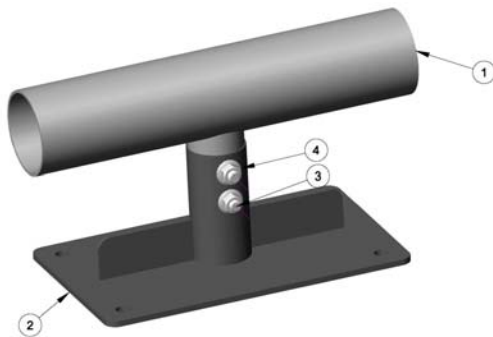

Figure 1. Hoist carrier mount installation.
1. Using detail from production drawings, hang welded drop pipe (item 1) from trusses. Make sure drop pipe is plum.
2. Begin installing carrier mount brackets (item 2) on the welded drop pipe (item 1) using the provided $\frac{1}{2}$ "-13 x 3" hex head bolts (item 3) and $\frac{1}{2}$ "-13 whizlock nuts (item 4). Be sure to note on the production drawing which drop has the carrier mount for the hoist, as this is different from the others. Please refer to figures 1 and 2 for illustrations of each.